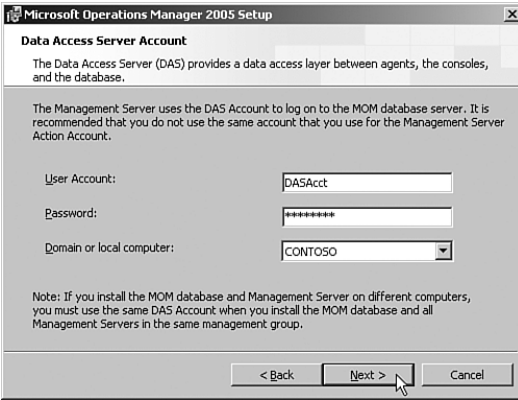

FIGURE 6.8 Specifying the Data Access Server account.
6. As shown in Figure 6.8, specify the service account you have previously created that will be used to access the OnePoint database.